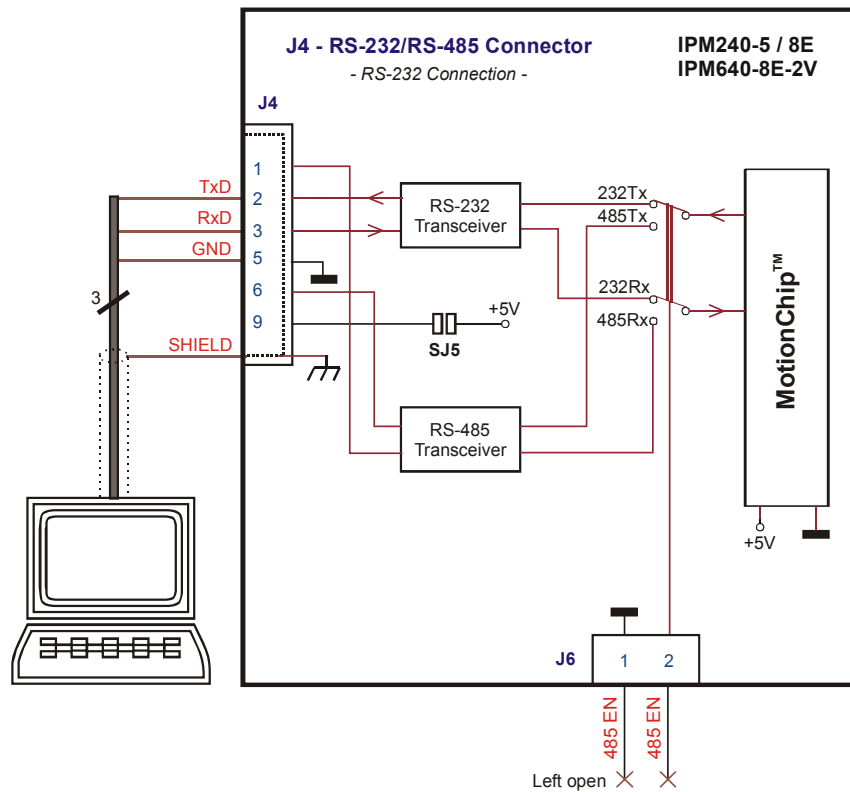

Figure A.1. RS-232 serial connections for IPM240/640 with J4
2. Connect an RS232 serial cable between your PC and J4 connector of the IPM240/640. The IPM240/640 drive is equipped with J4 connector (9-pin serial DB9), use a 9-wire standard serial cable non-inverting (one-to-one) or do connections as in Figure A.1. If IPM240/640 is equipped with J2 connector (3-pin screw terminal), do connections as in Figure A.2